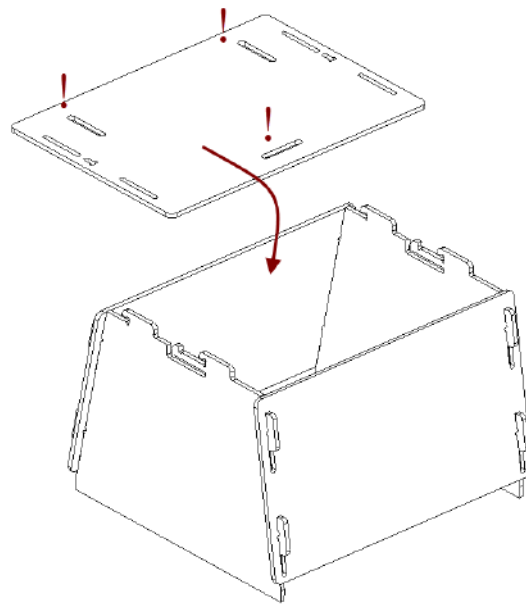

Figure 171: Mounting the cover.
3. Paying attention to orientation of the slots, install the cover using the upper hooks of the side walls (see Figure 171).